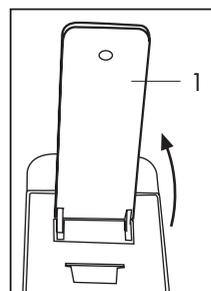

Fig. 9
- Slowly lift the control lever (1) backwards (until it stops) **(Fig. 9)** and introduce a capsule in the slot provided **(Fig. 10)**